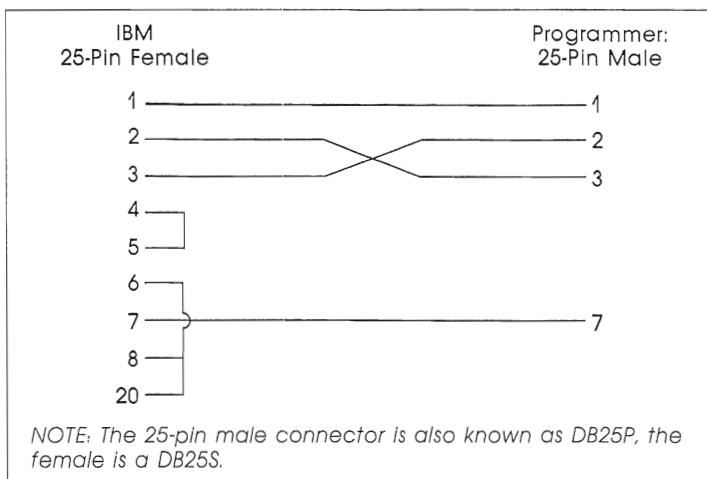
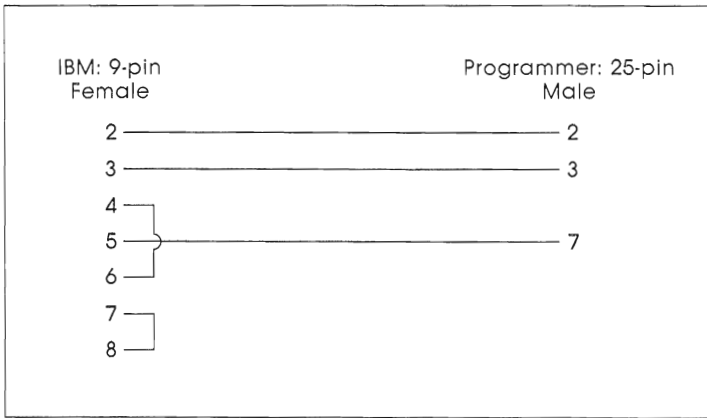
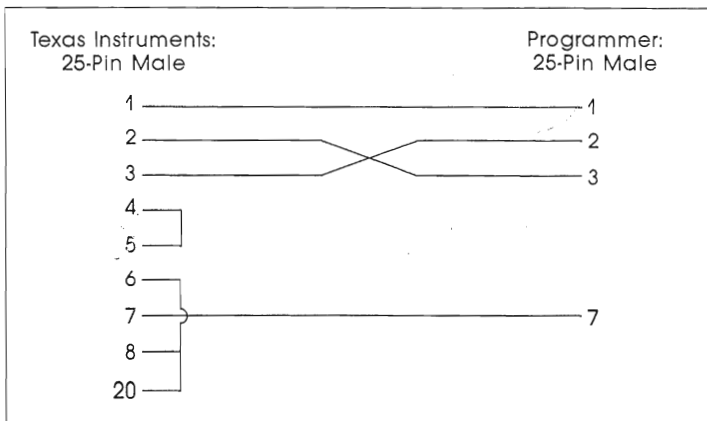

Figure 2-1. Serial Cable for IBM PC/XT
Figure 2-2. Serial Cable for IBM-AT
Figure 2-3. Serial Cable for Texas Instruments Professional
1. Connect one end of the supplied cable (25-pin) to the COM1: port of the computer. Connect the other end to the serial port of the programmer. See Figure 2-1. (See Appendix B.1 for information on using the COM2: port.) Figure 2-2 shows the cable connection for the AT and figure 2-3 shows the cable connection for the Texas Instruments Professional (TI).